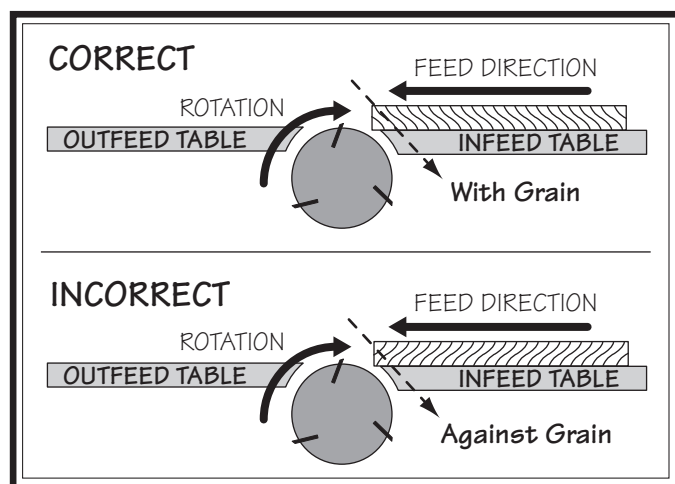

Figure 19. Proper grain alignment with cutterhead.
- **Jointing and surface planing with the grain produces a better finish and is safer for the operator.** Cutting with the grain is described as feeding the stock on the jointer so the grain points down and toward you as viewed on the edge of the stock (see **Figure 19**).